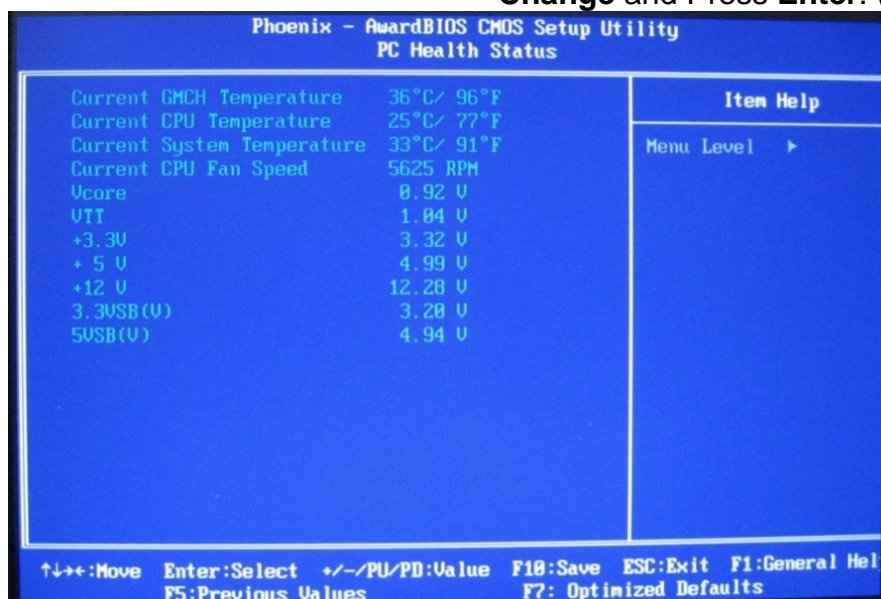

Figure 7-37 PC Health Status
27. On the PC Health Status screen. No Change and Press Enter. (Figure 7-37).